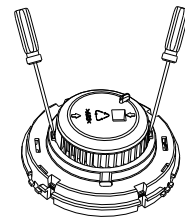

Fig. 6
- Open the top cover of detector, and draw out the sensing chamber by slightly lifting its two sides using a straight screwdriver, as shown in Fig. 6.